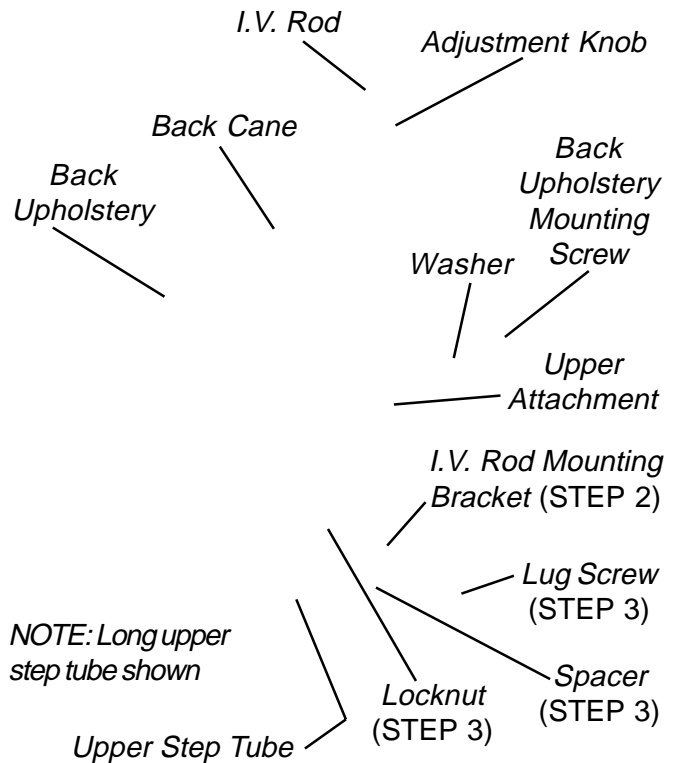

FIGURE 2 - INSTALLING THE TELESCOPING I.V. ROD ON TRANSPORT WHEELCHAIRS ONLY
Installing The telescoping I.V. Rod on Transport Wheelchairs Only (FIGURE 2)
4. Locate the back upholstery mounting screw and washer second down from the top of the back cane and remove as shown in FIGURE 2. Set upholstery mounting screw and washer aside.